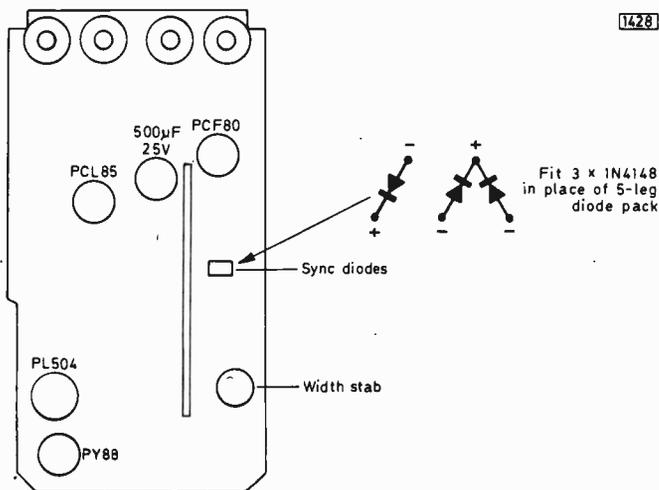

Fig. 1: Rear view of the timebase panel used in the TV141 and later sets.
*Poor line sync:* As TV125 series. Wire in as shown in Fig. 1.